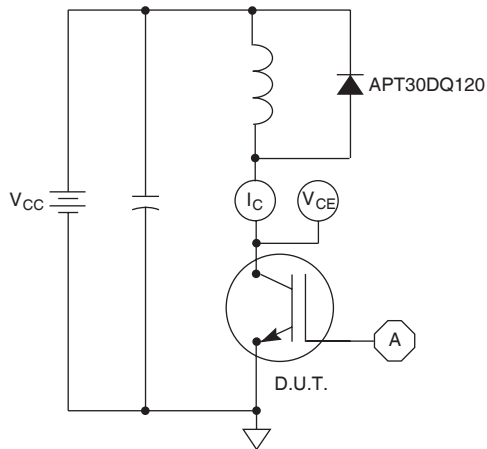

Figure 21, Inductive Switching Test Circuit
- ① Repetitive Rating: Pulse width limited by maximum junction temperature.
- ② For Combi devices, I_{ces} includes both IGBT and FRED leakages
- ③ See MIL-STD-750 Method 3471.
- ④ E_{on1} is the clamped inductive turn-on energy of the IGBT only, without the effect of a commutating diode reverse recovery current adding to the IGBT turn-on loss. Tested in inductive switching test circuit shown in figure 21, but with a Silicon Carbide diode.
- ⑤ E_{on2} is the clamped inductive turn-on energy that includes a commutating diode reverse recovery current in the IGBT turn-on switching loss. (See Figures 21, 22.)
- ⑥ E_{off} is the clamped inductive turn-off energy measured in accordance with JEDEC standard JESD24-1. (See Figures 21, 23.)
- ⑦ R_G is external gate resistance, not including $R_{G(int)}$ nor gate driver impedance. (MIC4452)